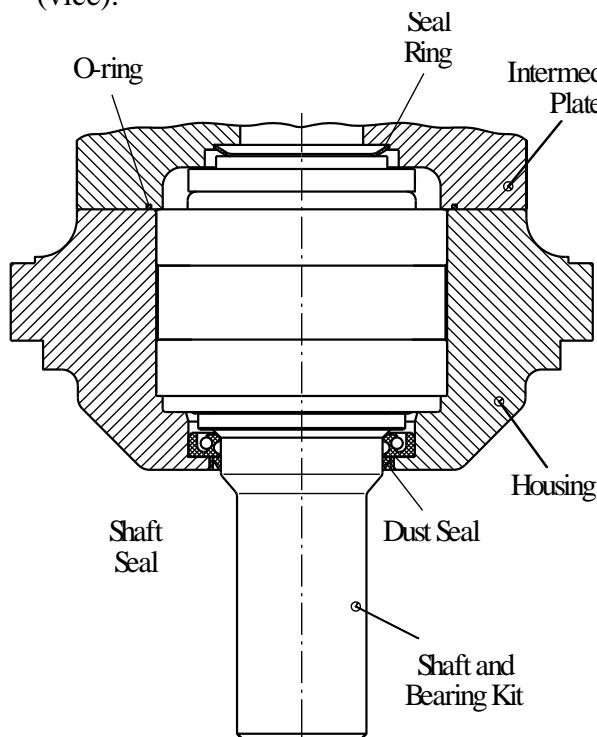

Fig.10
4. Use a press to install output shaft with bearing kit into housing (see Fig.10).
6. Install the seal ring in the Intermediate Plate as it is shown on figure 10.